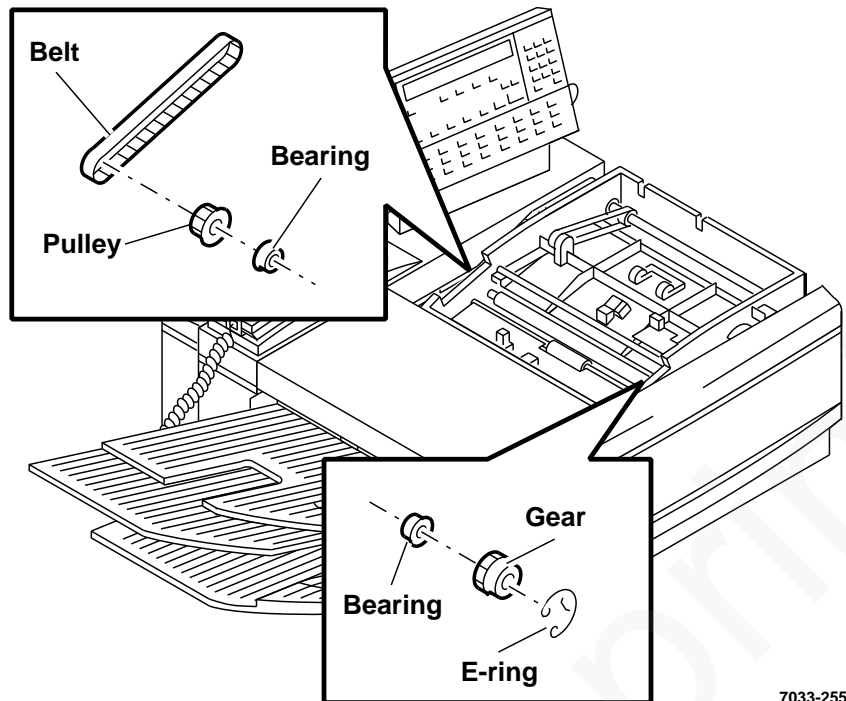

Figure 9. Pressure roller, pulley, and gear removal
- a. Remove drive belt from rear of the pressure roller pulley (Figure 9).